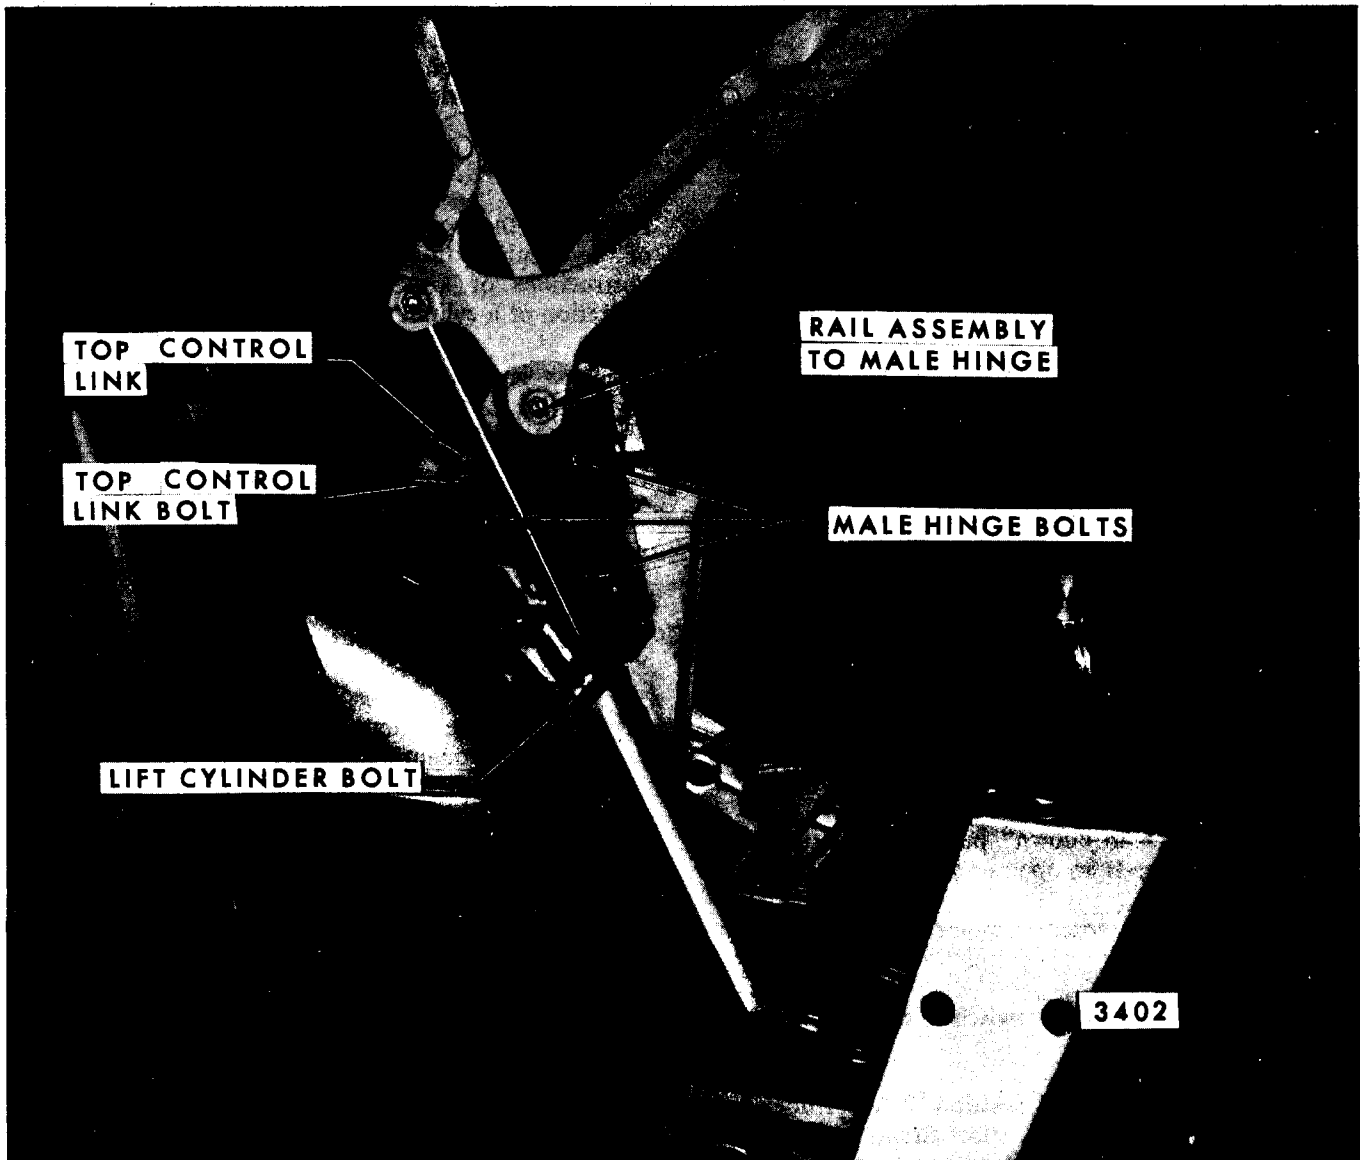

Fig. 12-27-Folding Top Linkage Attachment
6. Remove attaching nut, bolt, bushing and washer from upper end of cylinder rod (Figures 12-27 and 12-28).
2. Loosen bolt securing control link sufficiently to permit adjustment (Fig. 12-27).